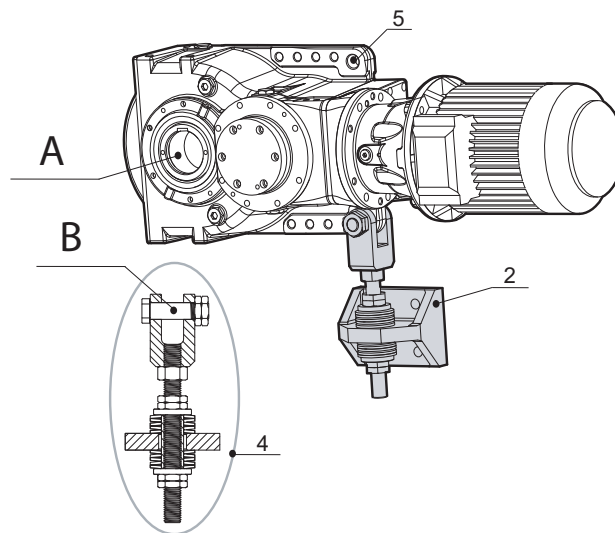

Fig. 9
Secure the reaction rod to the machine structure (pos.2) and tighten with anchor bolts (minimum recommended class 8.8) to the torque value indicated in the Table 4:Tightening torques (p. 19) Fig. 9 (p. 22)).